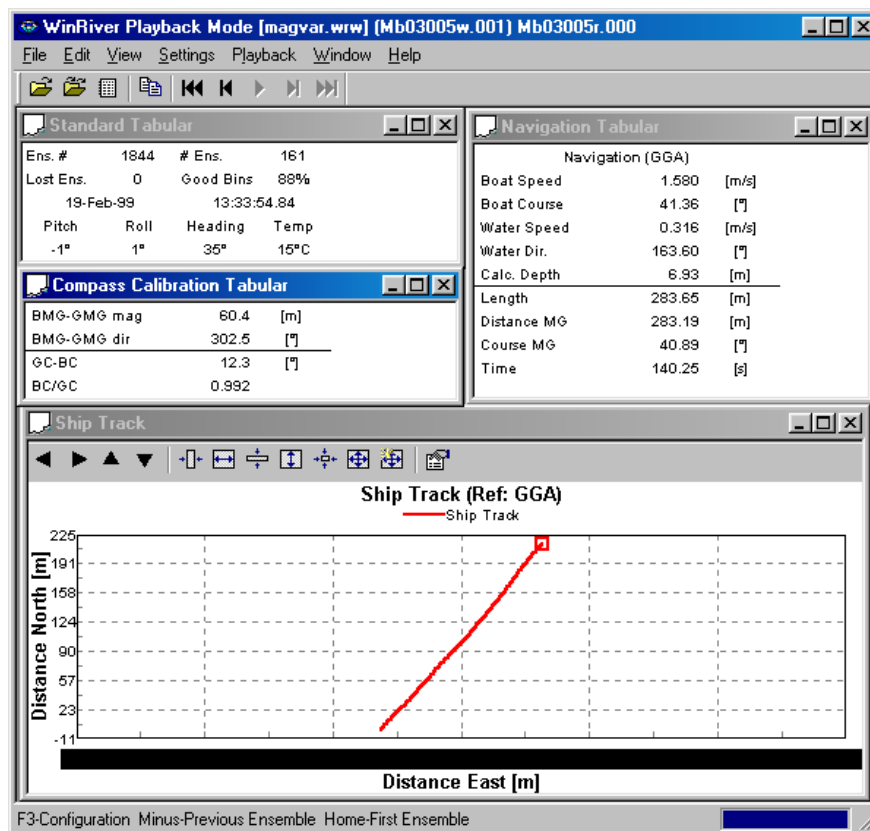

Figure 22. Determining Local Magnetic Variation
- h. Record the value of **GC-BC** from the **Compass Calibration Tabular** screen as shown in Figure 22. This is the compass error on this course (variation + deviation). Press **F5** to stop recording.